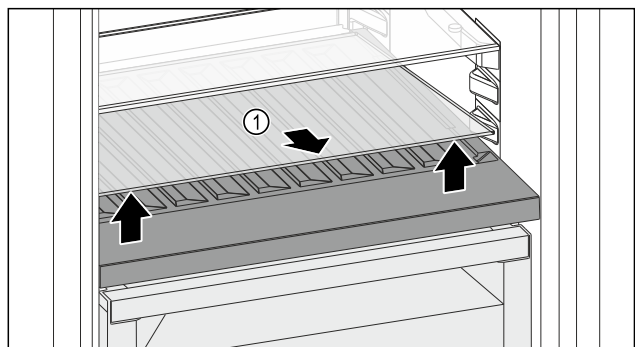

Fig. 80
- ▶ Lift the glass shelf Fig. 80 (1) at the front and remove.
- ▶ Store the glass shelf Fig. 80 (1) in a safe place outside the appliance.